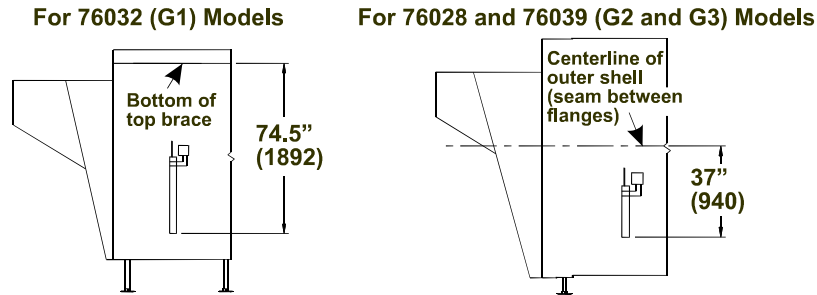

Figure 2
1. Make sure the bottom of the float tube is positioned as shown in Figure 2. Water will be just at the bottom of the drum and also at the bottom of the float tube. This is set at the factory and generally does not need to be readjusted.